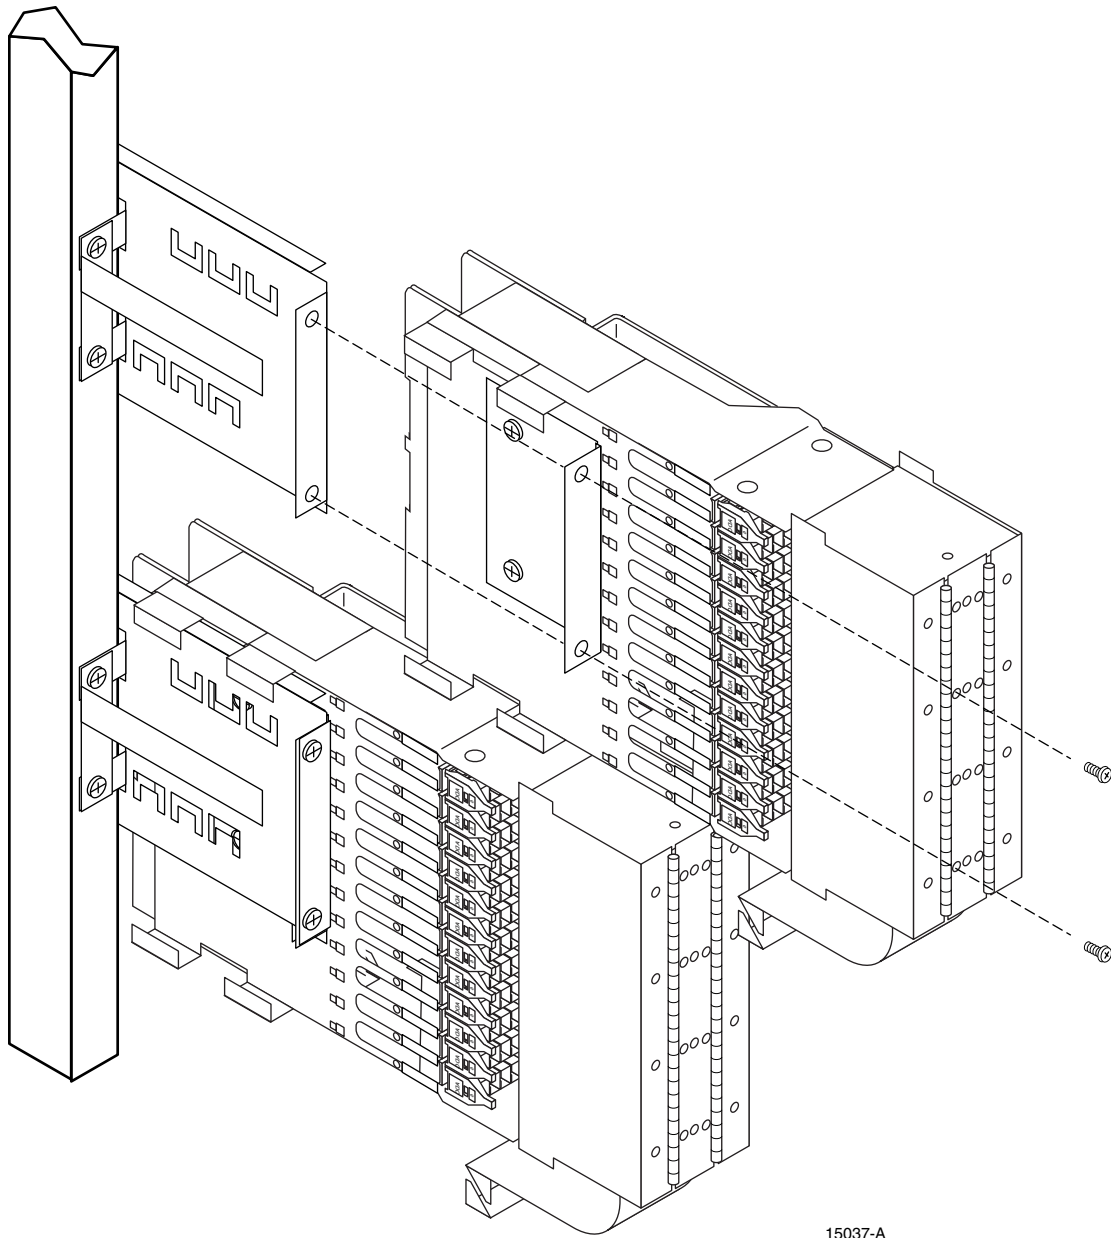

Figure 22. FTB Installation on Rack
8. Slide the FTB onto the appropriate mounting bracket at the front of the rack as shown in Figure 22.